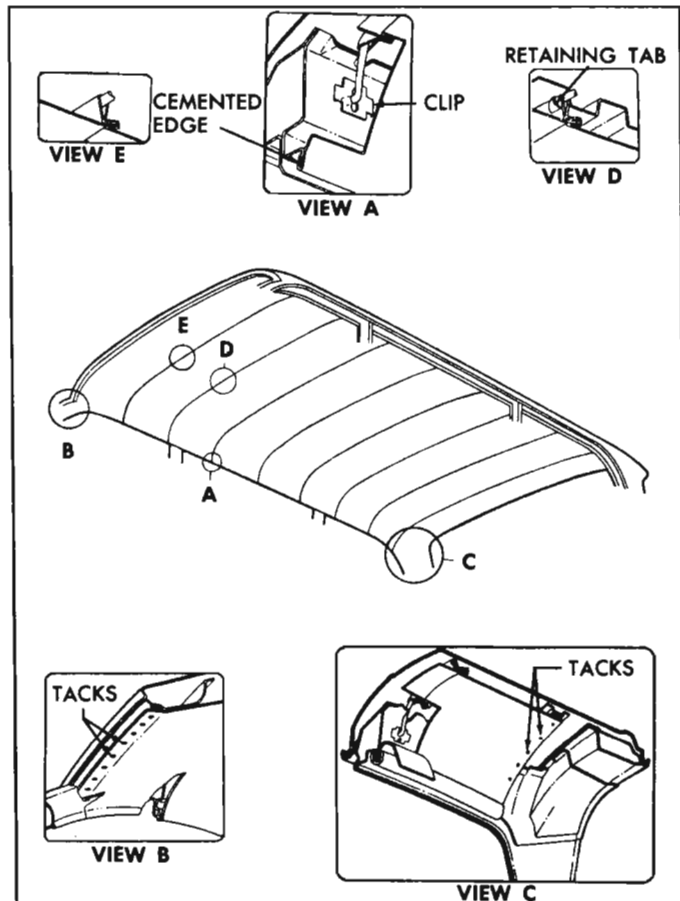

Fig. 10-111—Headlining Installation
3. Carefully detach cemented edge of headlining along each side roof inner rail including rear quarter windows as shown in View "A", Figure 10-111.
4. Carefully remove tacks or staples securing headlining at windshield opening as shown in View "B", and along back body opening as shown in View "C", Figure 10-111, then carefully detach cemented edges of headlining from openings.
6. At roof bow, bend down metal tabs, shown in View "D", Fig. 10-111 and remove listing support wire from roof bow.
4. Install headlining listing support wire over metal tabs on roof bow. Bend up metal tabs so that support wire is securely fastened to roof bow. (See View "D", fig. 10-111).